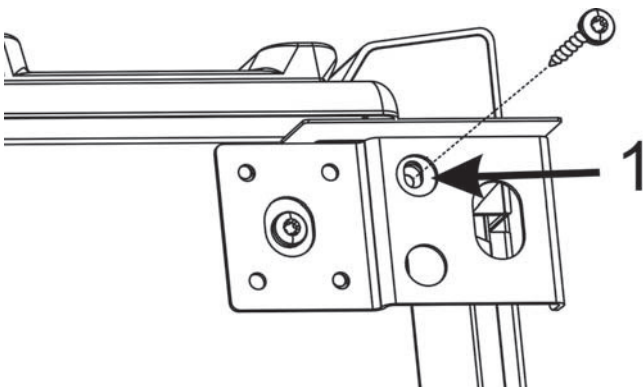

Figure 5: Screw placement
7. Insert screw (saved or from the kit) into hole 1 and lightly tighten (see Figure 5: Screw placement).